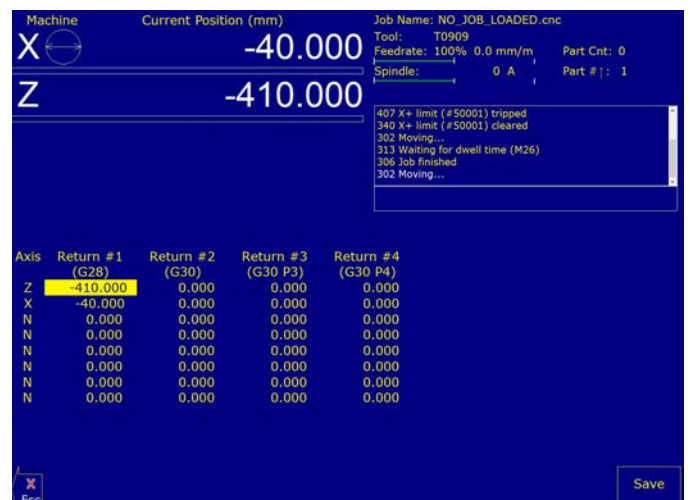

FIGURE 7—Return #1 (G28) table.
7. An alternative to the “Teach” button would be to double-click on the desired axis on (G28) and input the axis value from the Machine DRO screen (see Figure7).